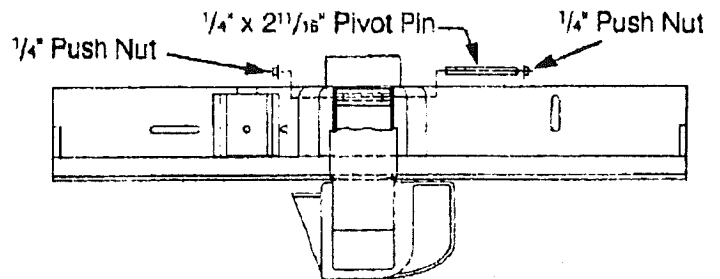

FIGURE 19.
1. Assemble guard to unitized fence as shown in Figure 19.